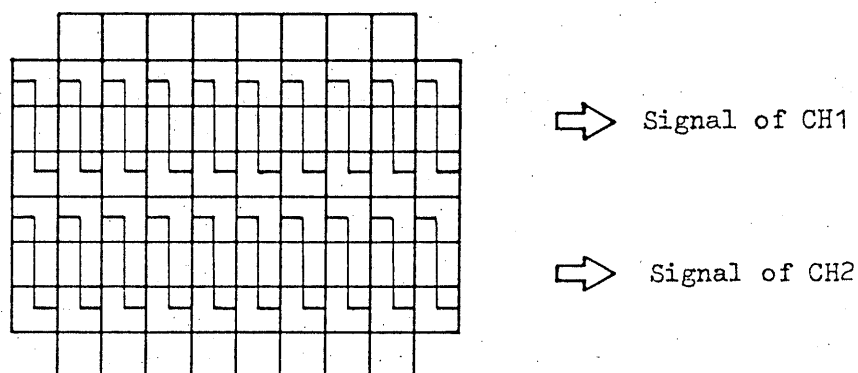

Fig. 6
Now, apply the calibration signal also to vertical INPUT terminal (18) of CH2 as is the case for CH1 and set the GND switch (22) in the popped up state (■). So adjust the vertical POSITION switches (7) and (12) that two channels of signals are displayed as shown in Fig. 6.